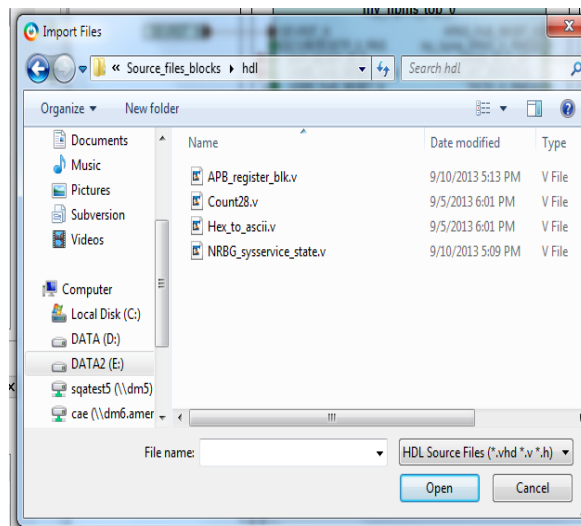

Figure 15 Import Files Dialog Box
20. Browse to **C:\ Coresysvc_lab\ Source_files_blocks\hdl** folder and import all four source files: **APB_register_blk.v**, **Count28.v**, **Hex_to_ascii.v**, and **NRBG_syssservice_state.v** files, as shown in Figure 15.